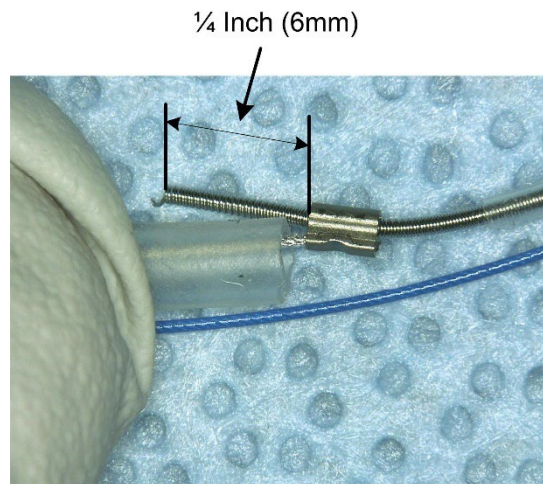

Figure 8 - Trim Inner Coil
5. Trim the inner coil approximately 0.25 inches from the edge of the small cuff. See Figure 8.